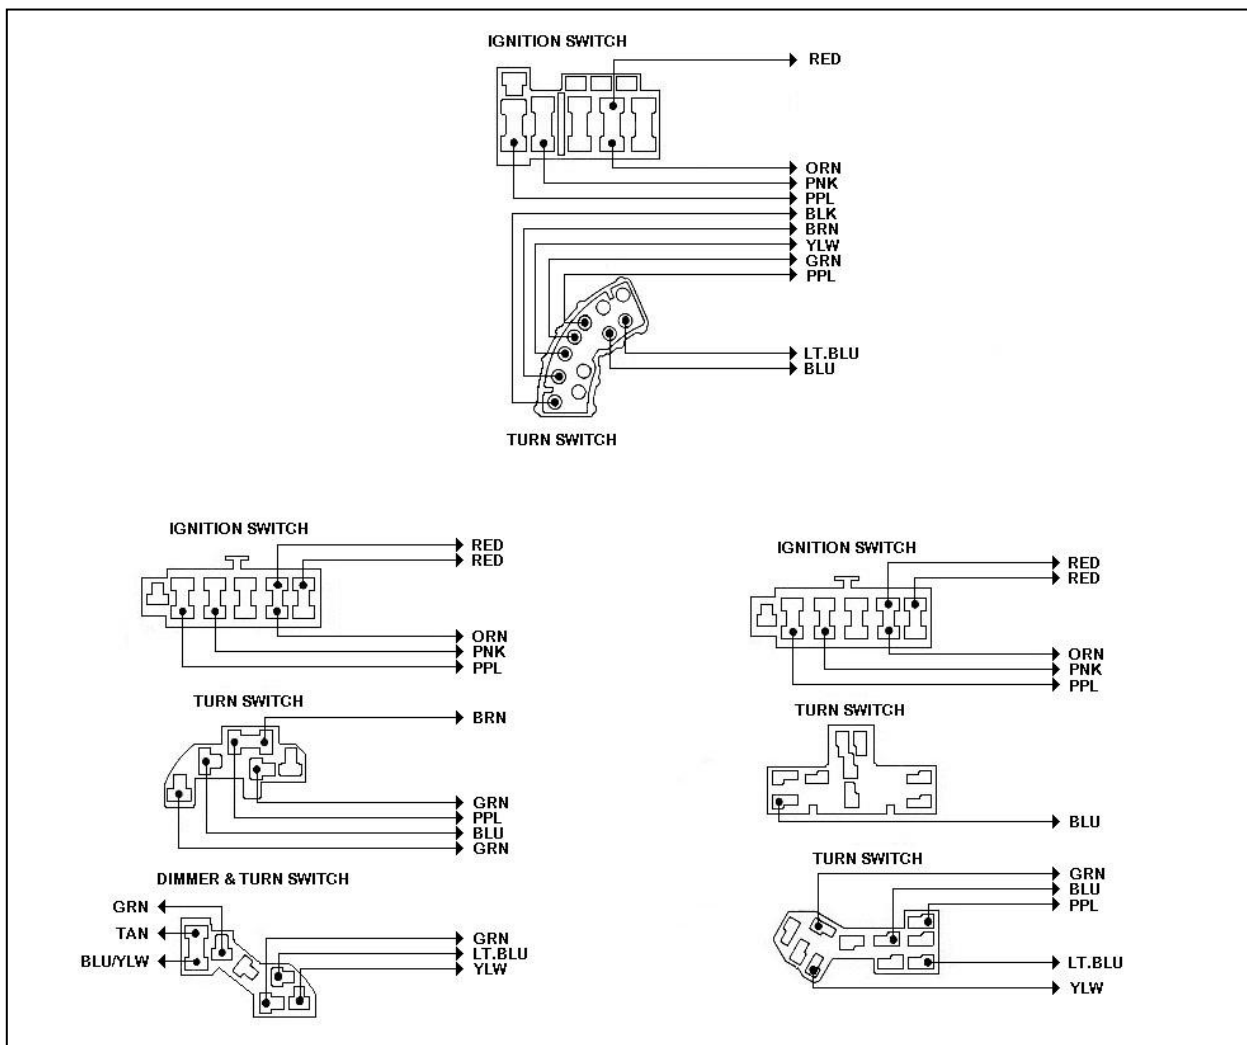

Figure 8-3 Ford Ignition Switch Connectors (See note on Page 10, Section 8.2)
- 8.4.1** Connect the wires of the IGNITION SWITCH SECTION according to **Table 8-1**. **Figure 8-3** represents three (certainly not all) possible Ford ignition switch connector configurations and how they should be wired.